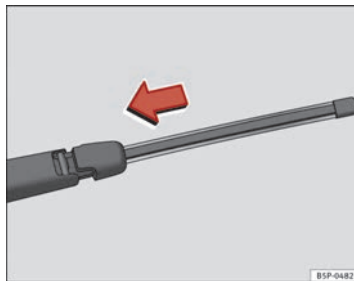

Fig. 170 Fitting the rear window wiper blade ▶
- Place the blade as shown in the ⇒ fig. 170 and slide the adapter along until it engages.